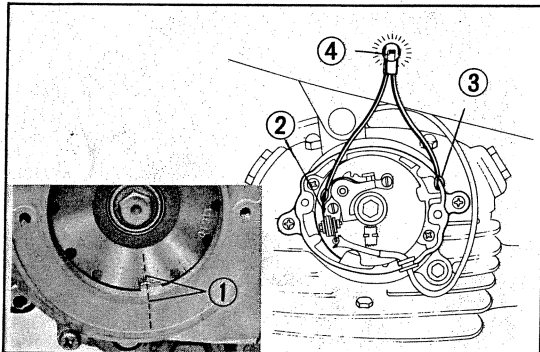

Fig. 6 ① "F" aligning mark ② Breaker arm spring
- 1) Disconnect the contact breaker cord (green cord) at the connector and connect a 12V–3W lamp across the line. (Fig. 6)
- 3) Turn the rotor slowly until the lamp goes out and check the position of "F" mark on the rotor against the index mark on the L. crankcase. If they are in line, the ignition timing is correct. (Fig. 6)